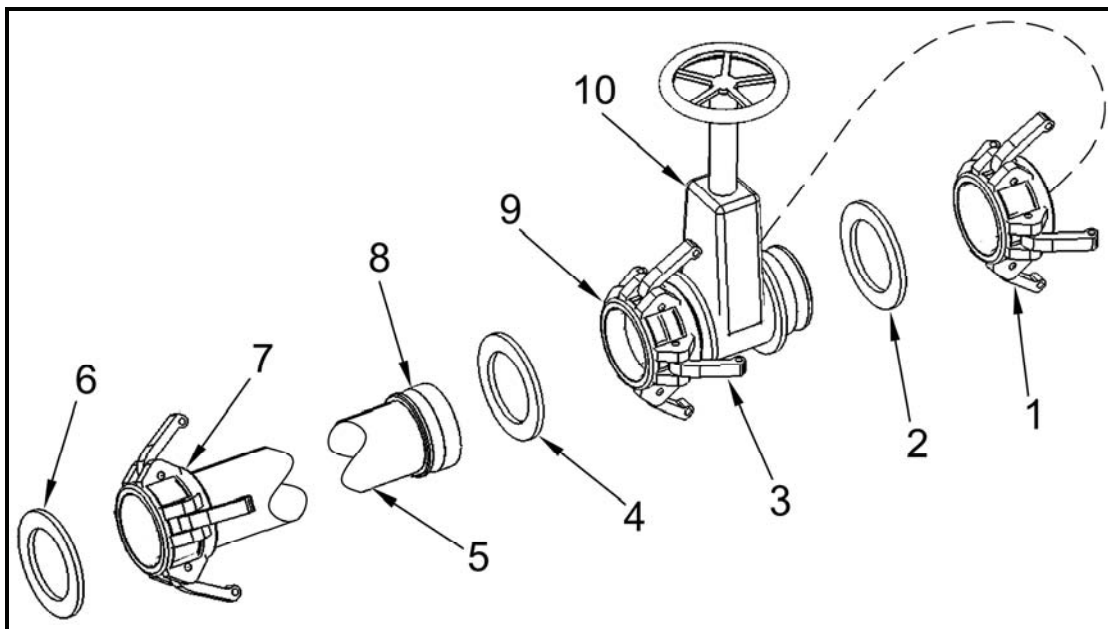

Figure 1. Fill/Discharge Gate Valve
1. Pull two cam lock arms (Figure 1, Item 3) outward on female quick-disconnect coupling (Figure 1, Item 9), and hose assembly coupling (Figure 1, Item 8). Disconnect hose assembly (Figure 1, Item 5) from fill/discharge valve assembly (Figure 1, Item 10).
2. Remove coupling gasket (Figure 1, Item 4) from inside female quick-disconnect coupling (Figure 1, Item 9). Discard gasket.
3. Remove hose assembly gasket (Figure 1, Item 6) from inside hose coupling (Figure 1, Item 7). Discard gasket.
4. Remove dust cap (Figure 1, Item 1). Remove gasket (Figure 1, Item 2) from dust cap. Discard gasket.